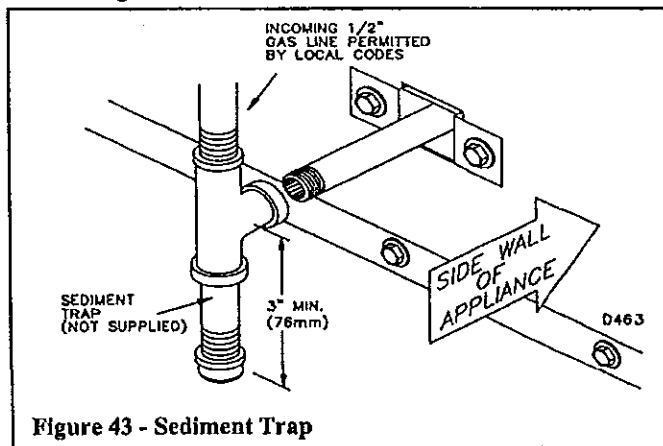

Figure 43 - Sediment Trap
Route a 1/2" NPT GAS LINE towards the appliance coming in from the right. If you wish to route your incoming gas line coming in from the left, remove the gas line conduit sleeve on the right side of the appliance and place it on the left side. It is recommended to route the pipe between the stand of the firebox and the surround of the fireplace (see Figure 43).
1. Install a sediment trap between the incoming gas line and the gas control valve (see Figure 43). The sediment trap should extend down the center of the pipe. Refer to your local codes.